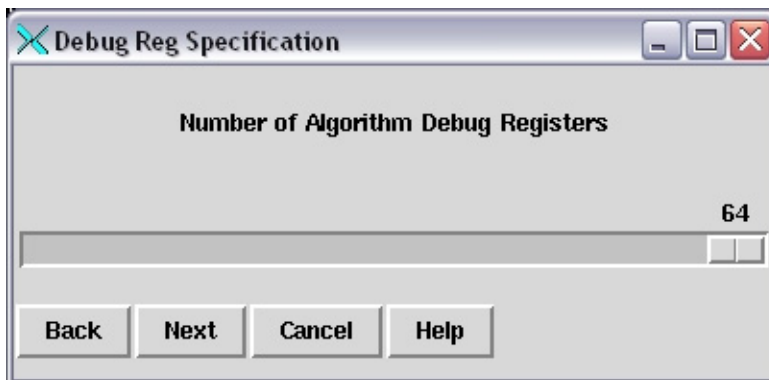

Figure 8-9 Number of Debug Registers Selection
Core Services provides up to sixty-four (64) 64-bit debug registers. These registers are up to the algorithm author to specify, and they can be read through GNU Debugger (GDB). For more information about the debug registers and the GDB, see “Using the GNU Project Debugger (GDB)” on page 178. These registers are also specified using a slider, as shown in Figure 8-9.